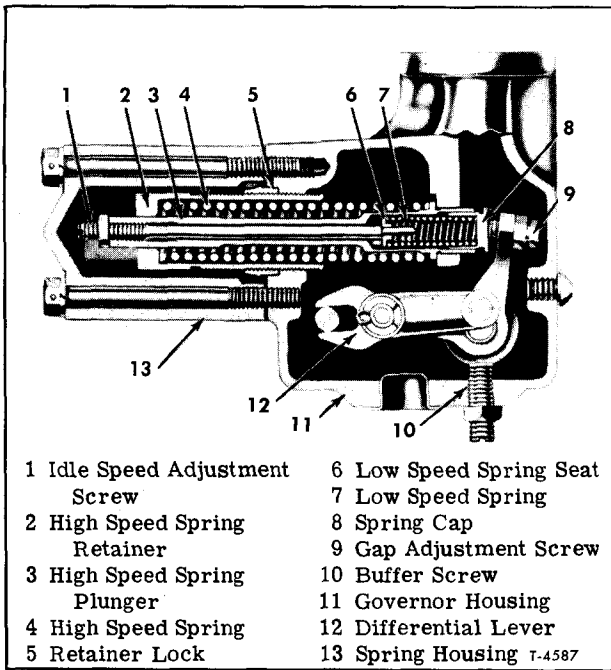
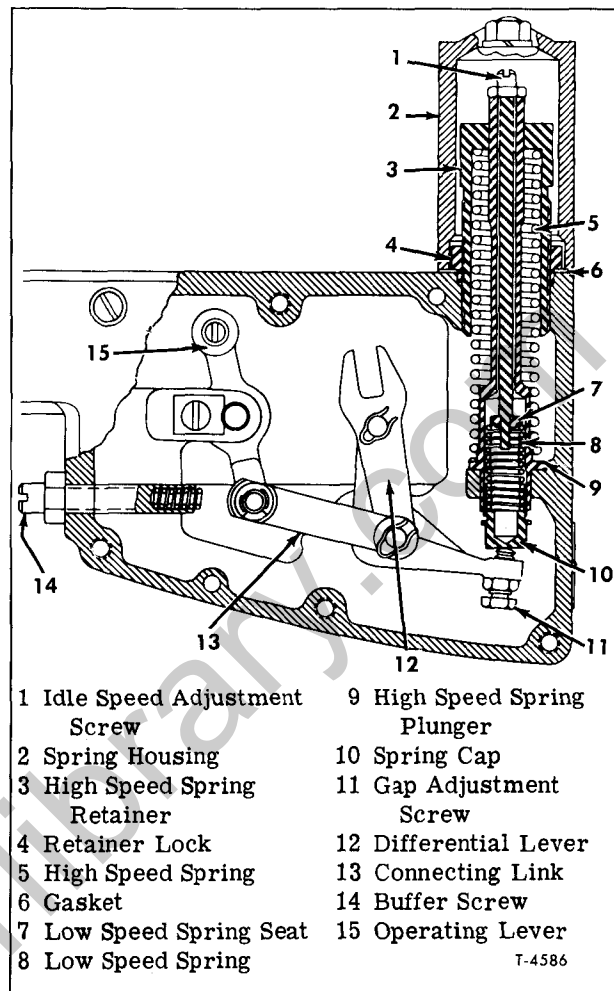
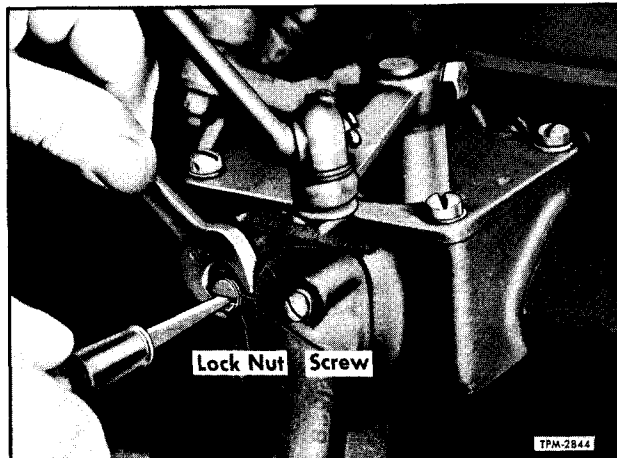

Figure 7—Governor Springs and Levers (In-Line Engine)
Figure 8—Governor Springs and Levers (V8-71 Engine)
Figure 16—Adjusting Buffer Screw (Typical)
1. Remove two bolts and lock washers attaching governor spring housing (13, fig. 7 or 2, fig. 8) to control housing.
2. Loosen lock nut and turn buffer screw out slightly (10, fig. 7 or 14, fig. 8).
4. If necessary to adjust, loosen lock nut and turn idle adjusting screw (1, fig. 7 or 1, fig. 8) IN
1. With the engine running at normal operating temperature, turn the buffer screw (fig. 8) in so that it contacts the differential lever as lightly as possible and still eliminates the engine roll (fig. 16).